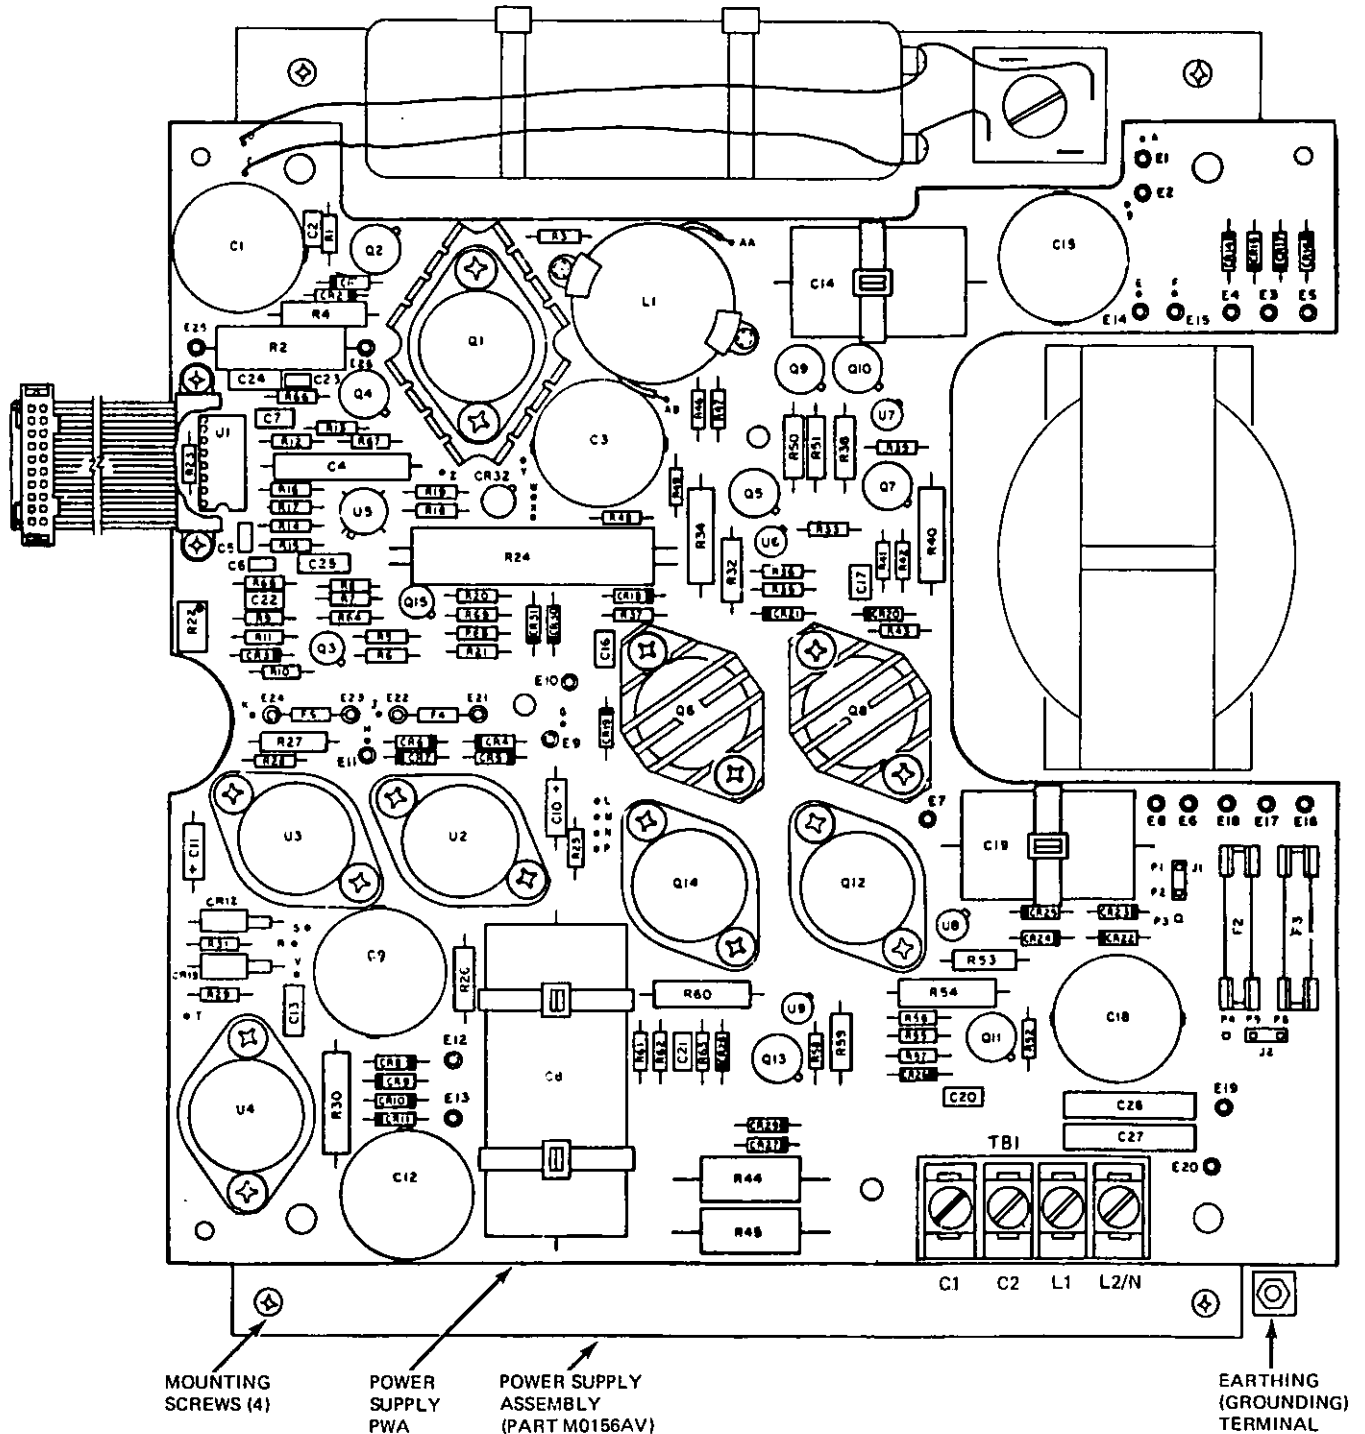

Figure 2. Power-Supply PWA
For location of test points and components on power-supply PWA, refer to Figure 2. For access to PWA, complete Steps 1 through 4 of "Signal-Conditioning PWA" removal procedure on Page 9.
3. Refer to Figure 2. Disconnect wires from terminals C1, C2, L1 and L2/N on power-supply PWA. Also disconnect wire from earthing (grounding) terminal.
4. Remove the four mounting screws (shown in Figure 2) from corners of power-supply assembly. Remove assembly from transmitter housing.